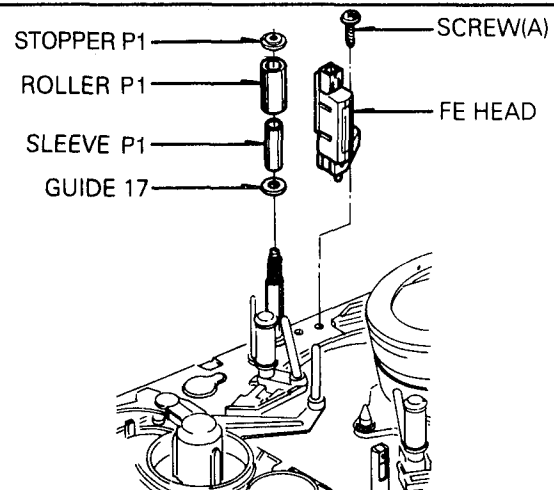

Fig. B-11 FE Head/P1
- 1) When reassembling, align the hole(A) of Pinch Gear with the hole of chassis, and the hole(C) of Pinch Gear with the groove(D) of the P.C.Gear. Hole(E) of chassis should be aligned with the hole of P.C Gear.
11. FE(Full Erase) Head Assembly(Fig. B-11) (Optional Item)
12. P1 Assembly(Fig. B-11)